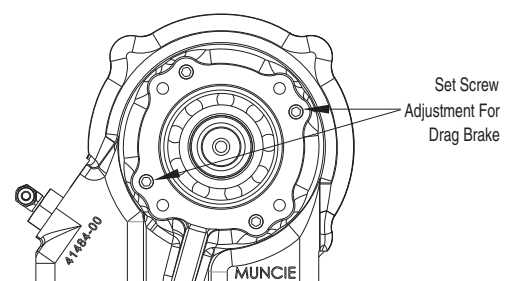

Figure 15 – Drag Brake Adjustment
9. Remove the hose (40) with a 7/16" wrench. *See Figure's 13 & 14.*
10. Remove the four socket capscrews (50) using a 1/4" Allen wrench. Proceed to remove the bearing cover (51). *See Figure 15*
11. Locate the adjustment screws (42) on the inside of the PTO housing (37). *See Figure 15*
12. Using a 3/16" Allen wrench, turn each of the set screws (42) 1/4 turn clock-wise to increase the drag brake.
13. Move away from under the vehicle and away from possible moving components and restart the engine. Look for the output shaft (10) to stop turning. If the shaft continues to turn, then shut off the engine and repeat steps 11-13.